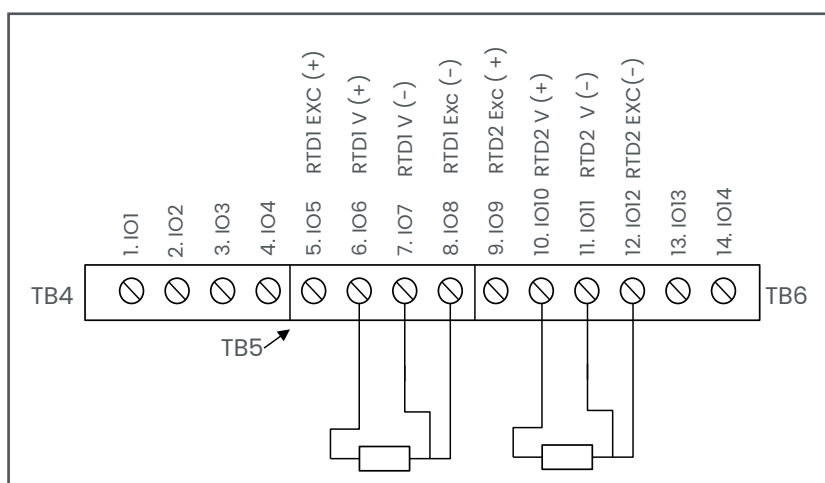
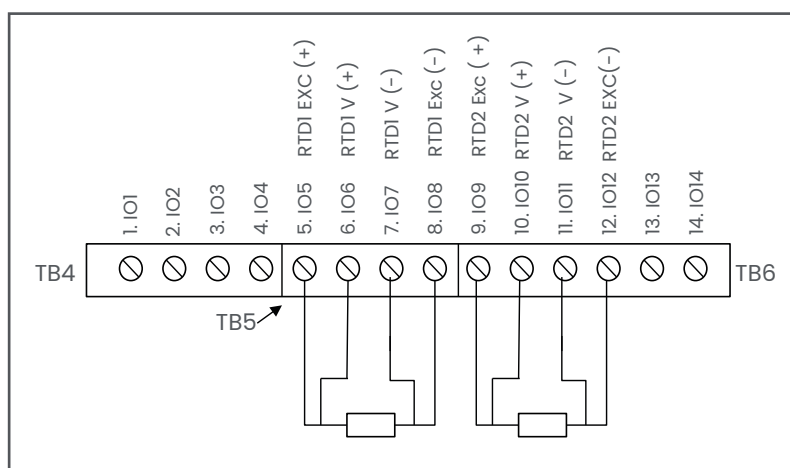

Figure 29: Wiring the 3-Wire RTD Input
Figure 30: Wiring the 4-Wire RTD Input
Note: The RTD inputs in the XGF1100 can be wired for 3 Wire or 4 Wire. Refer to Figure 29 and Figure 30 for proper connection.
3. Feed one end of the cable through the conduit hole and wire it to the terminal block TB5 or TB6 as shown in Figure 29 or Figure 30. Secure the cable gland.